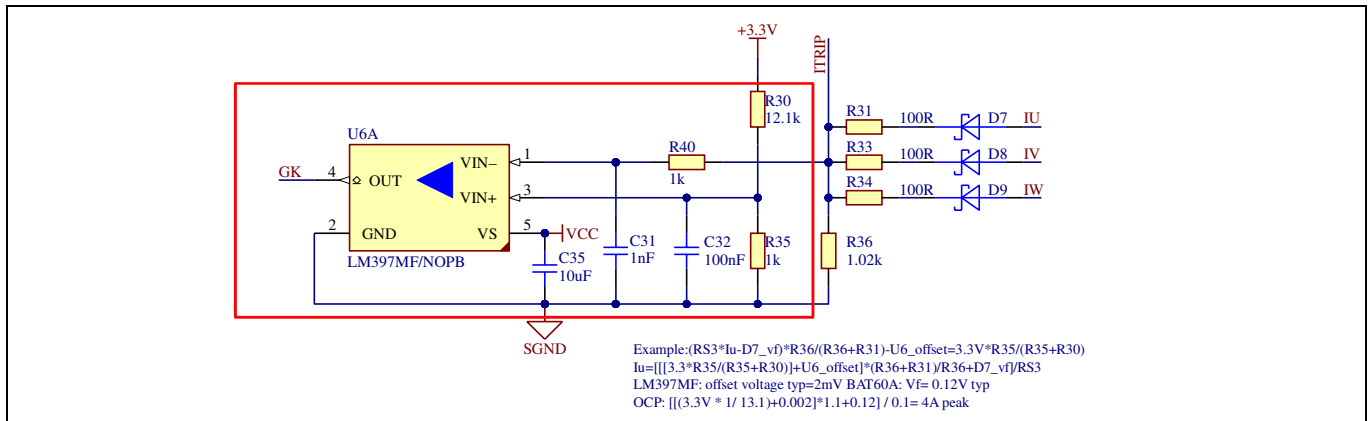

Figure 24 IPM overcurrent protection and over-temperature protection circuit
Figure 24 displays the overcurrent protection circuitry. The current sensing signal I_Shunt is connected to gatekill (GK) via the comparator U6A. If the motor peak current is larger than the setting value I_{OCp} for more than I_{OCp} input filter time, the RFE will be triggered low, which means that the GK signal is active.